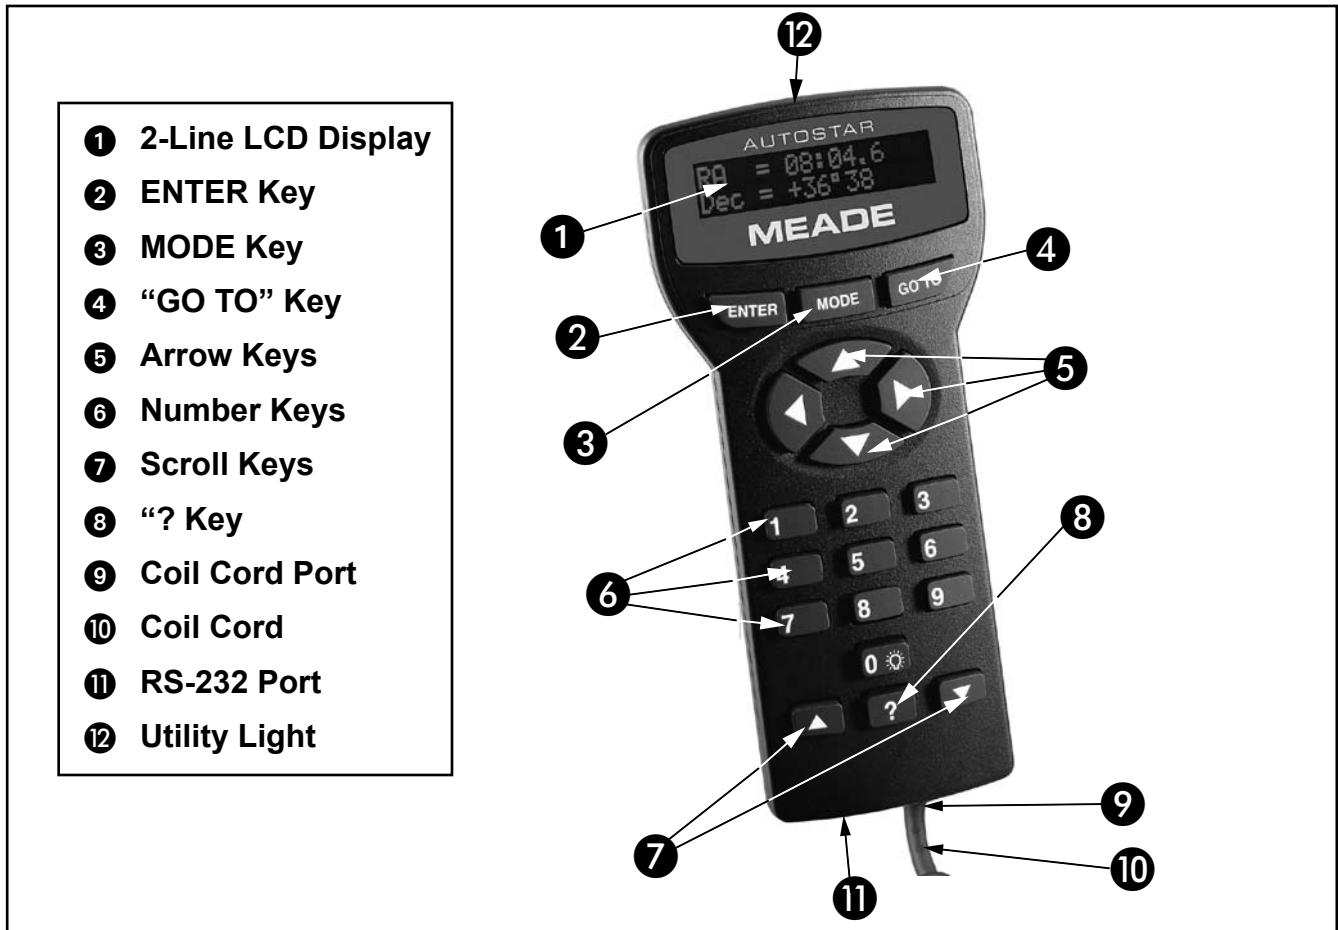
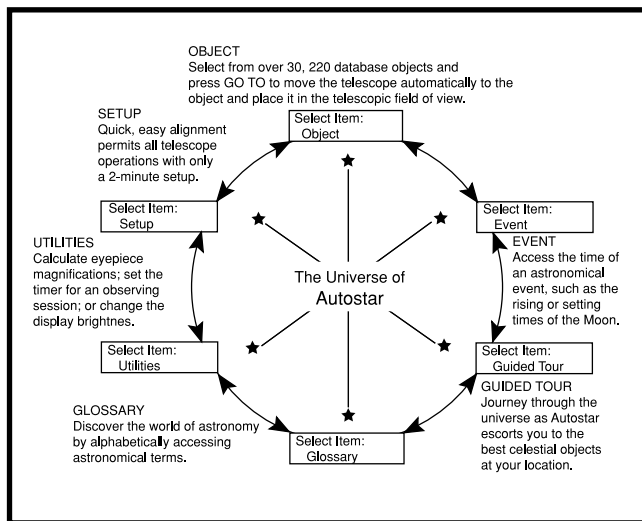

Figure 10: *The AutoStar #497 Handbox*
Fig. 11: The AutoStar Universe: The six primary categories listed in the Select Item menu of AutoStar.
If MODE is pressed and held for two seconds or more, information about the telescope's status displays. When the status displays, press one of the Scroll keys (Pg. 20, Fig. 10, 7) to display the following information:
- 9 **Coil Cord Port:** Plug one end of the AutoStar coil cord into this port (pg. 20, Fig. 10, 9) located at the bottom of the AutoStar handbox.
- 10 **Coil Cord:** Plug one end of the AutoStar coil cord into the HBX port (Pg. 20, Fig. 10, 10) of the computer control panel of the telescope and the other end into the coil cord port.
3. The Arrow keys are now activated. Press the Arrow keys (Pg. 20, Fig. 10, 5) to slew (move)
4. Press a Number key (Pg. 20, Fig. 10, 6) to change the telescope's slew speed. See Slew Speeds, on pg 20 for more information.
It is important to understand that menu selections are set in a loop (Fig. 11). This means that pressing the Scroll Down key (Pg. 20, Fig. 10, 7) cycles down through all the available options within a given category, then returns to the first option. The Scroll Up key (Pg. 20, Fig. 10, 7) cycles up through the options in the opposite order. Note that this capability is a quick way to get to an option that is near the bottom of the list. The following example demonstrates this capability.